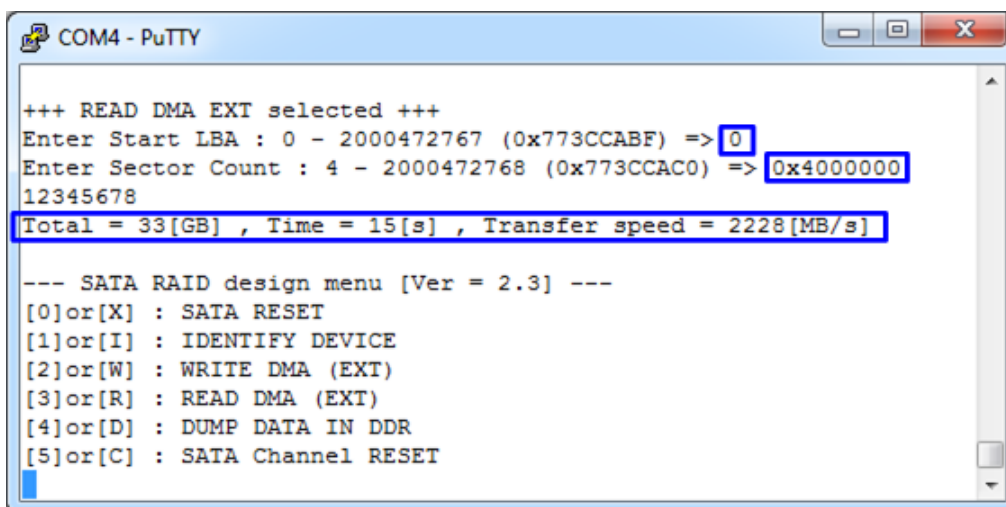

Figure 3-6 READ DMA (EXT) command without verify
- Sector Count: same description with Sector Count in WRITE DMA (EXT) menu. If this input is not more than 262144, the third input will be displayed for selecting verification pattern. If input is more than 262144, the third input will not be displayed to skip data verification process for checking performance only, as shown in Figure 3-6.